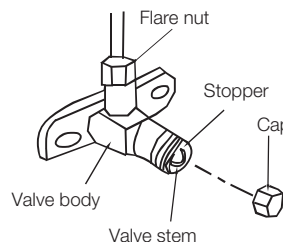

Fig.9-6
- Check all the joints with the leak detector or soap water. (See Fig.9-6 as a reference illustration).
Each air conditioner has two stop valves of different sizes on the side of the outdoor unit which operate as Lo-lever value, respectively. (refer to Fig. 9-6)